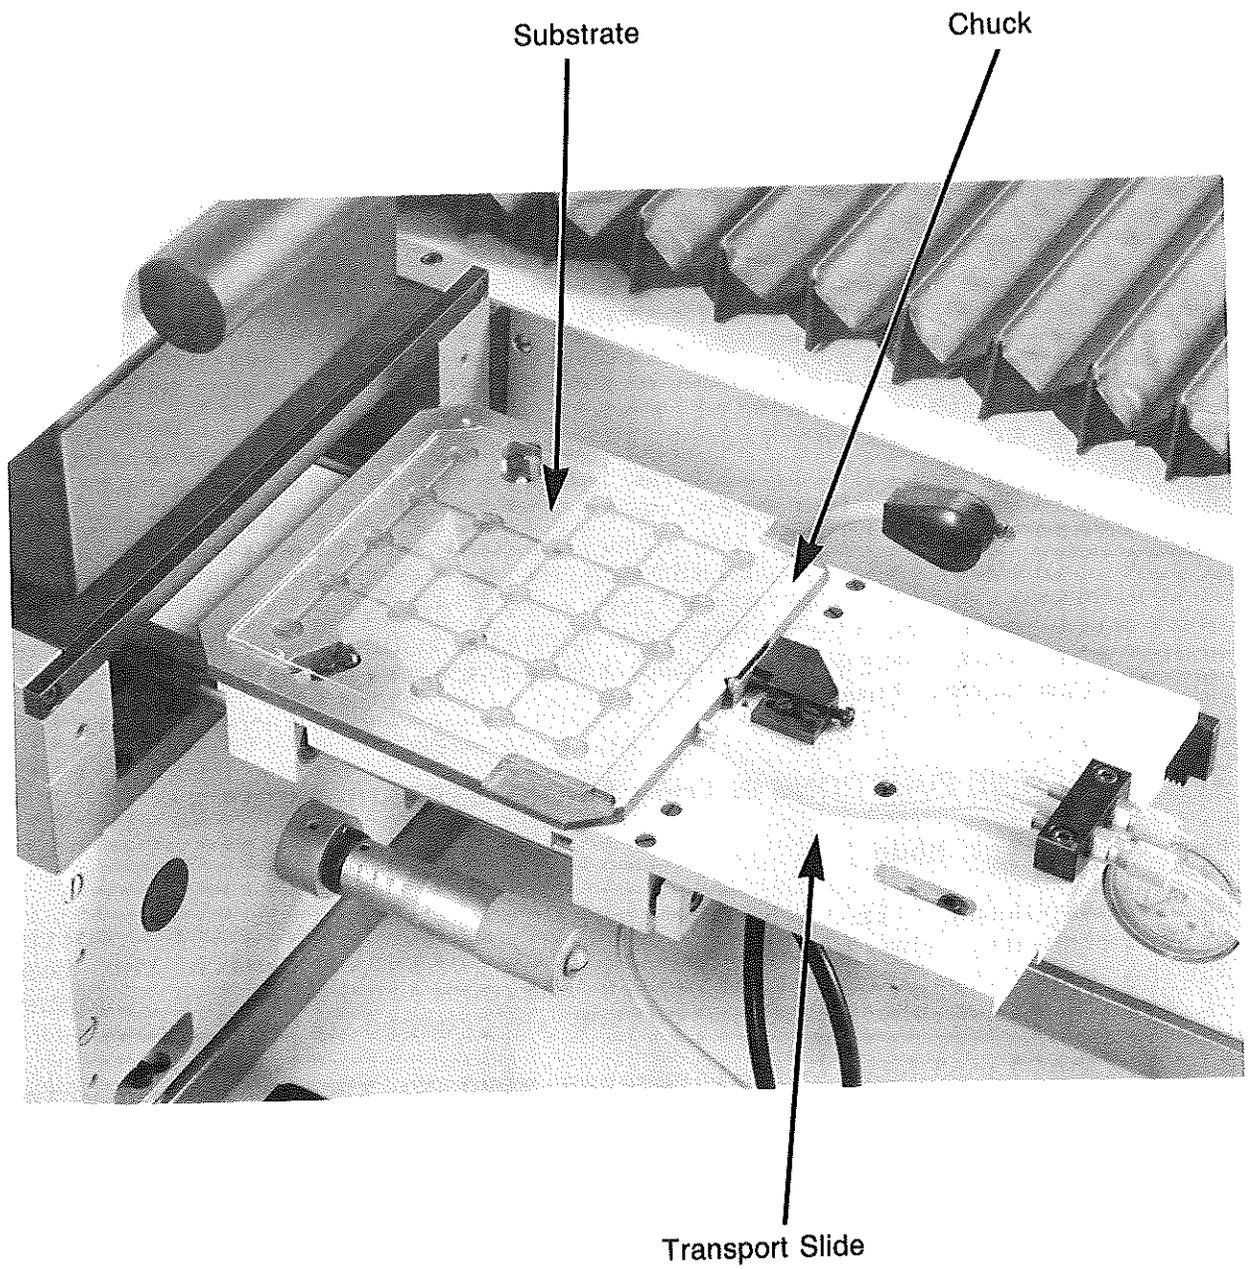

Figure 2-7 Loading the Substrate
2.3.3 Loading the Substrate (Please refer to Figure 2-7.)